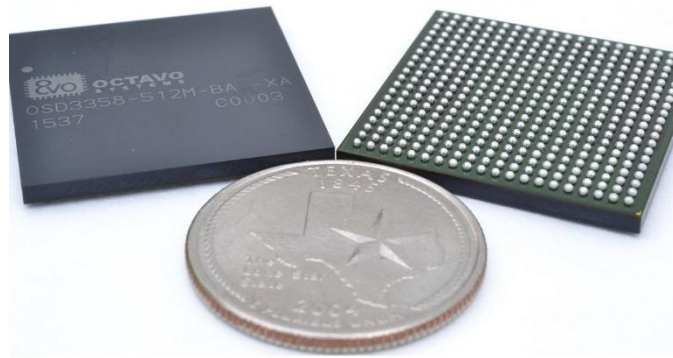

Figure 1 OSD335x in comparison with US quarter
The **OSD335x family of System-In-Package (SiP) devices** serves as a solid foundation to build advanced embedded systems quickly with reduced time to market. These SiPs tightly integrate Texas Instrument (TI)'s AM335x ARM® Cortex® A8 CPU, TPS65217C Power Management IC (PMIC), TL5209 LDO, up to 1GB of DDR3 and all associated passives. All of which is contained in a US quarter sized package as shown in Figure 1.